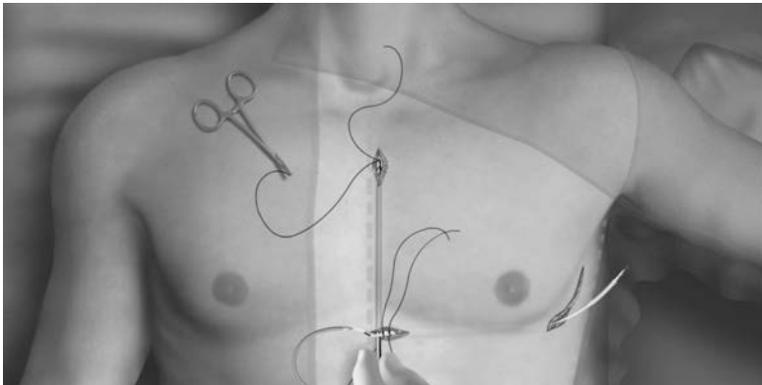

Figure 4. Tunneling to Superior Incision
7. Insert the distal tip of the EIT into the xiphoid incision and tunnel subcutaneously towards the superior incision, staying as close to the deep fascia as possible (Figure 4 Tunneling to Superior Incision on page 11).